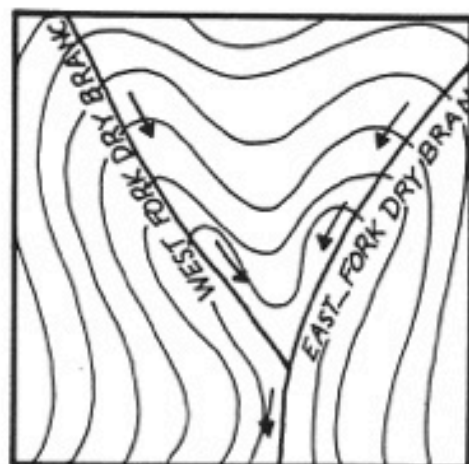

FIGURE 2
2. From the soil information on their cards and Table 1, the students can determine the soil erodibility factor (K) for their sites.
3. The topographic factor (LS) is determined using the slope length, percent slope, and Figure 2. To do this, locate the point at which the slope length (on the x-axis) intersects with the appropriate percent slope line within the graph. Use a straight edge to read the value of LS on the y axis.
4. The values for the cover and management factor (C) and the erosion-control practice factor (P) are given in Tables 2 and 3, respectively. Note that C and P both equal 1.0 for bare soil with no soil erosion control. Thus, to determine the amount of soil loss by water erosion for bare soil with no erosion-control
LS (Topographic Factor) from Figure 2
Read Figure 2 as shown in the diagram below.